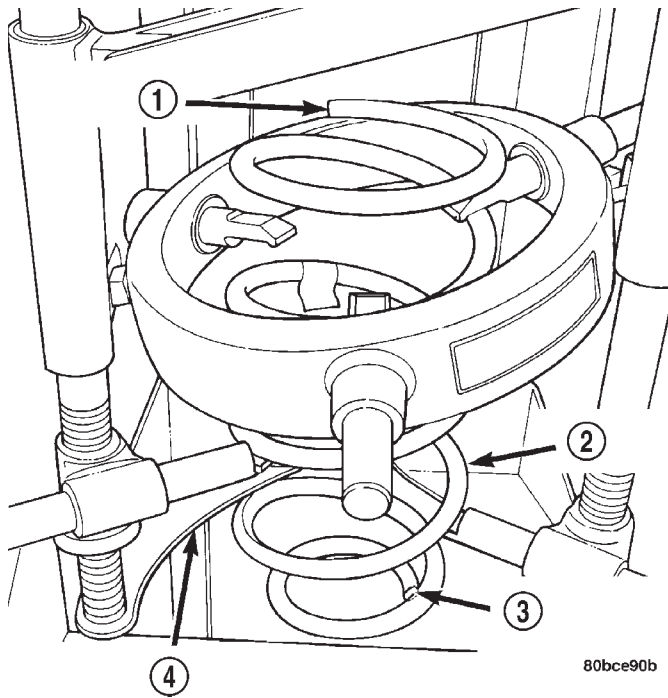

Fig. 28 Coil Spring Positioning
(1) Place the coil spring in the compressor following the manufacturers instructions. Before compressing the spring, rotate the spring so the end of the top coil is directly in the back as shown (Fig. 28).
(2) Slowly compress the coil spring until enough room is available for strut assembly reassembly.
(3) Install the lower spring isolator on the lower spring seat of the strut.